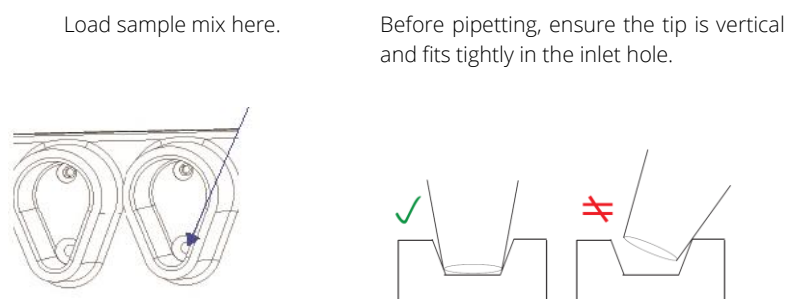

Fig. 5.2. Loading considerations for the Xdrop SE85 Cartridge
6. Place the pipette tip vertically in the inlet hole at the bottom of the inlet well (the narrow end of the teardrop), making a tight connection (Fig. 5.2):